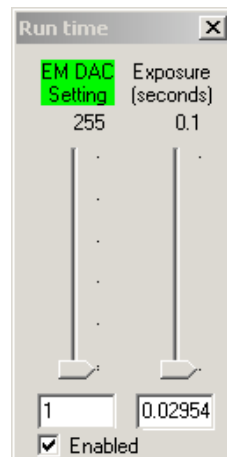

Figure 2. *The slider control window for exposure time and EM gain.*
The slider window (see Fig. 2) gives you easy access to the electron multiplication (EM) gain and exposure time setting. You can use the mouse to drag the sliders or type values directly into the fields below them. You can in principle switch off the EM amplifier here, but you shouldn't. The EM gain slider is disabled if the conventional amplifier is in use. Please note that the EM setting here is *not* the physical gain and that it is not linearly related to it! See the AstraLux thesis for typical gain curves for different temperatures.